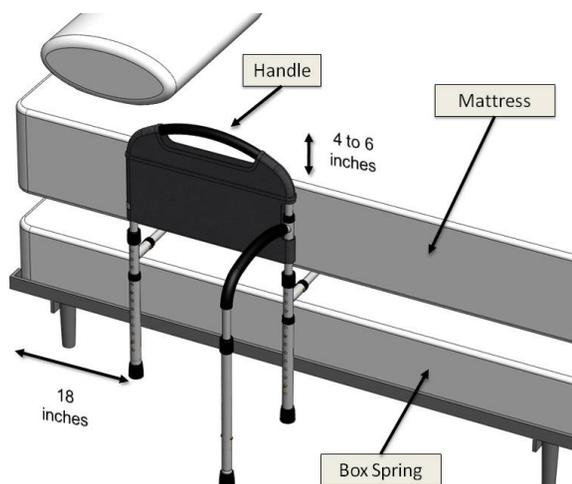

FIGURE 6
6. As shown in Figure 6, fully insert the assembled product between the mattress and box spring of the bed. Note that product should be at least 18" away from the head of the bed and the Handle should be 4" to 6" above the top of the mattress.